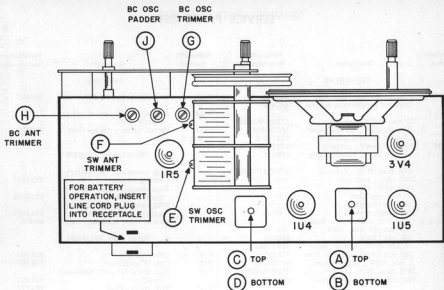

Fig. 5. Top View of Chassis Showing Location of Alignment Adjustments
- Refer to Fig. 5 for location of alignment adjustments.